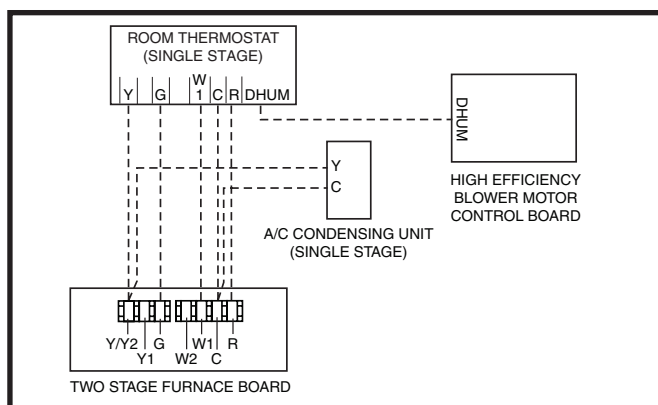
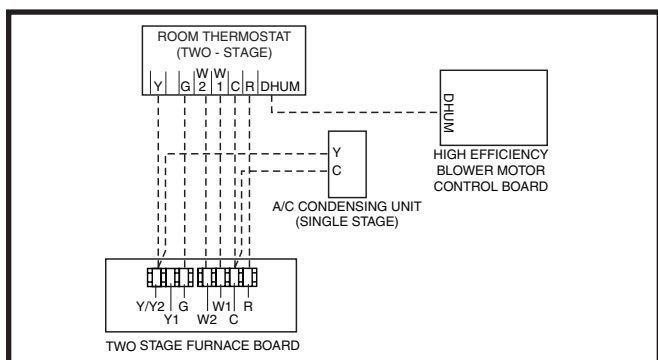

Figure 20. Wiring Configuration 1
Figure 21. Wiring Configuration 2
- The thermostat must be installed according to the instructions supplied by the thermostat manufacturer. Low voltage connections (24 VAC) from the thermostat are wired to the terminal strip on the integrated control in the furnace. For heating applications, Figure 20 & Figure 21 show how to properly connect single stage and two-stage thermostats. Recommended minimum wire gauge for thermostat wiring is shown in Table 9.
This option uses the full two stage heating capability of the furnace with a single stage outdoor unit. See Figure 20.
The Autostaging feature makes it possible to use a single stage thermostat and still receive some of the benefits of 2-stage furnace operation. If Autostage is enabled, the furnace will drop to **LOW** fire after initially starting in **HIGH** fire. After a period of 10 minutes, the furnace will then stage up to **HIGH** fire, until the heating load is met. See Figure 20 and the Low Voltage Connection section.
- ✓ Verify that all needed thermostat wires are securely connected to the correct leads on the terminal strip of the circuit board. See Figure 20 & Figure 21.
- Remove the regulator capscrew from the INLET side of the regulator. See Figure 21.